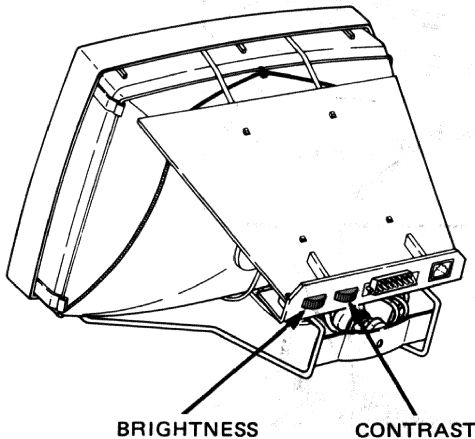

Figure 4-5 Brightness and Contrast Controls
1. Turn the brightness and contrast controls to the minimum setting (Figure 4-5).